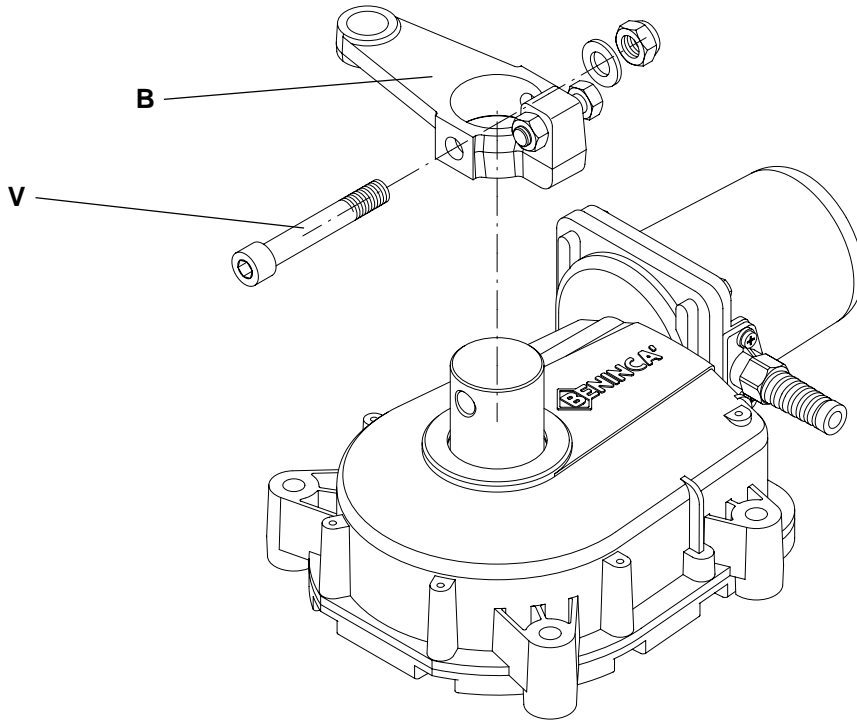

Fig.2
- 1 Montare la biella "B" come da fig. 2 serrando forte la vite V (coppia di serraggio max. 45 Nm).
- 1 **Assemble the cam "B" as per Fig. 2 and firmly tighten the screw V (tightening torque 45 Nm max).**
- 1 *Pleuel "B", wie in Abb. 2 einbauen. Dabei Schrauben V fest anziehen (Max Anziehmoment 45 Nm).*
- 1 **Monter la bielle "B" de la manière illustrée à la figure 2 en serrant fort la vis "V" (couple de serrage maximum 45 Nm).**